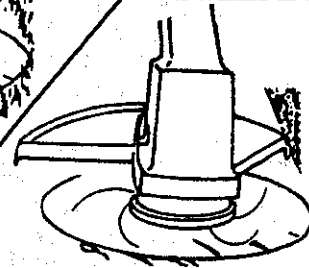

Figure 14
3. **MOWING** - Figure 14. Your trimmer is ideal for mowing in places conventional lawn mowers cannot reach. In the mowing position, keep the line parallel to the ground. Avoid pressing the head into the ground as this can scalp the ground and damage the unit.
4. **SWEEPING** - Figure 14. The fanning action of the rotating line can be used for quick and easy clean up. Keep line parallel to and above surfaces